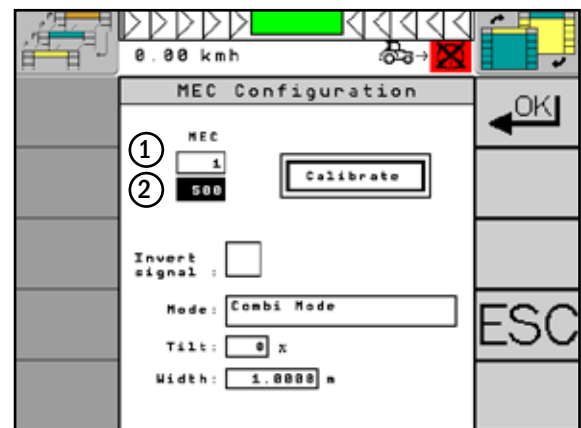

Fig. 233: Display sensor value
The upper area of the menu page shows the existing sensor (see Fig. 233).
- The first line shows the current value of the sensors (see Fig. 233 – 1).
- The second line shows the saved value (see Fig. 233 – 2).